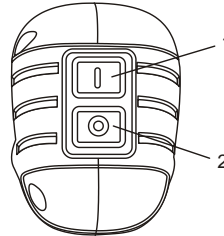

Fig. 7
To turn the sander ON, push the upper switch button (1) until the sander starts. To turn the sander OFF, press the lower switch button (2) (Fig. 7).